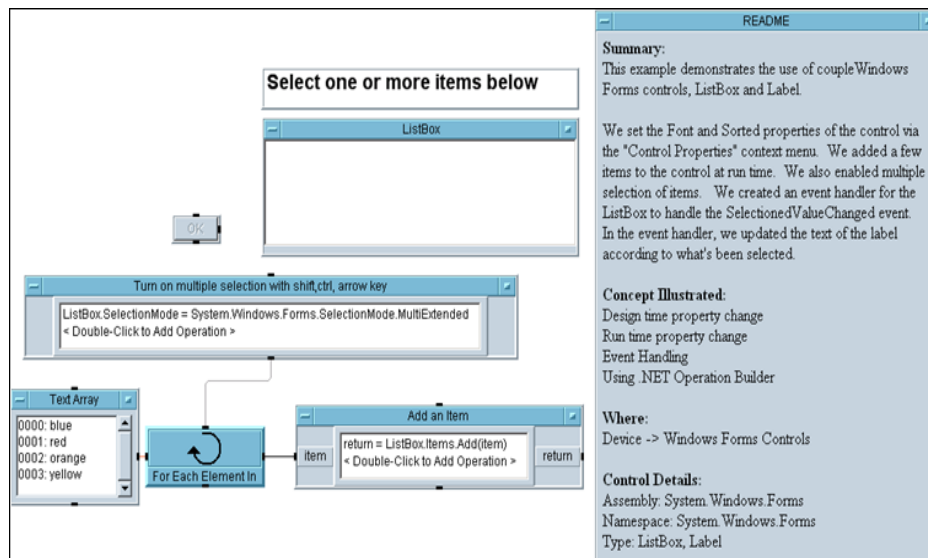

Figure 4-6 ListBox before running
- 2 Select Menu Bar => Help => Open Example => DotNETControls => ListBox. See Figure 4-6 and arrange objects as shown.